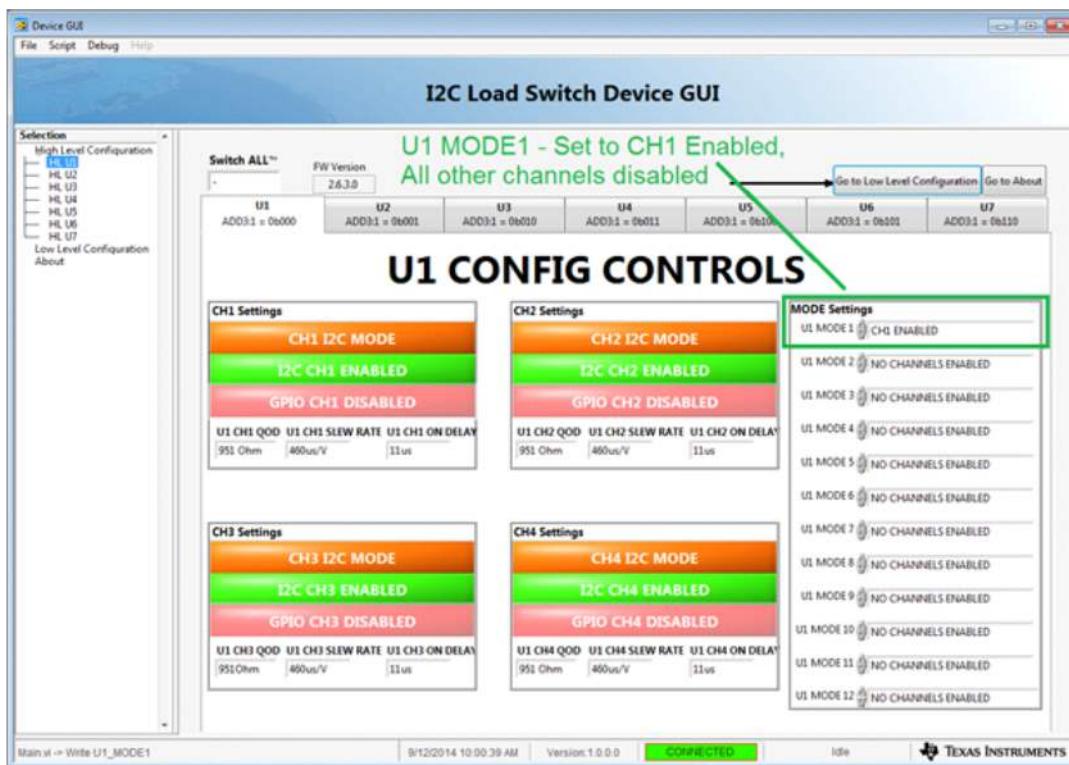
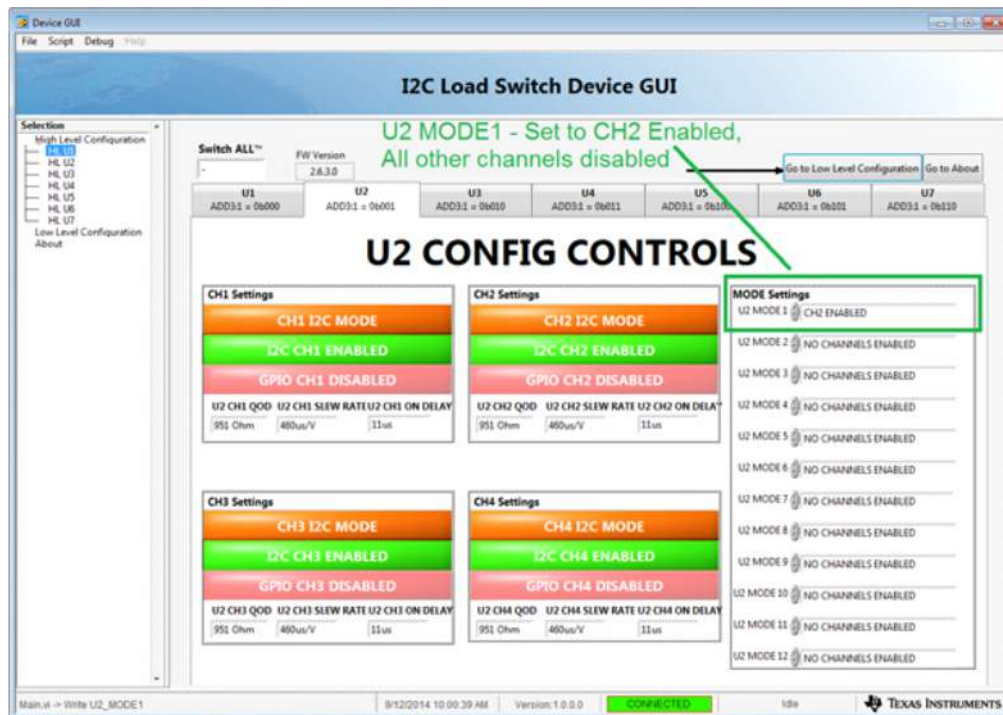

Figure 9. Set U1 Mode1 Register to CH1 Enabled
Figure 10. Set U2 Mode1 Register to CH2 Enabled
- (A) To use the SwitchAll™ function, the GUI CONFIG controls for all channels must be set to the I2C Mode, and the I2C communication must be enabled.
- (B) You can use the SwitchAll™ functionality by configuring the Mode Register controls for each specific mode register on the two devices.
- (C) For example U1 MODE1 is configured to enable CH1 only and U2 MODE1 is configured to enable CH2 only, you must set these first before sending the SwitchAll™ command, see Figure 9 and Figure 10.